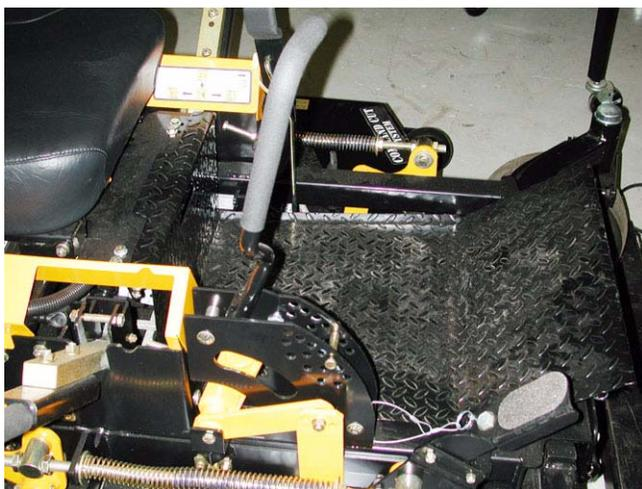

Figure 8.4
8.4. The larger, heavier decks have a foot assist pedal to help raise and lower the deck. See Figure 8.4.